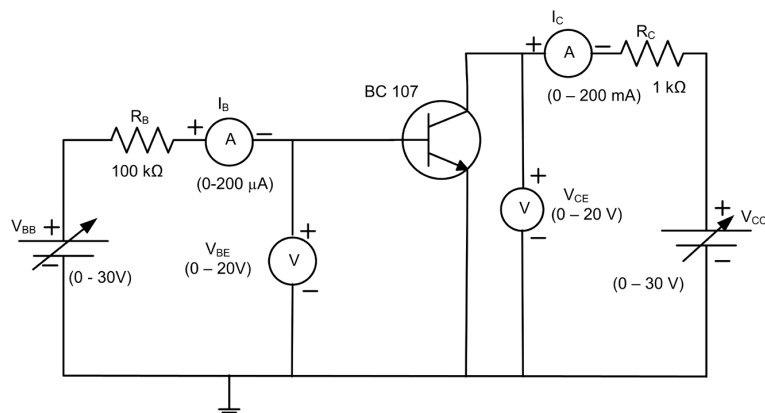

Fig. P20.1: Circuit diagram of BJT in CE mode
1. Connect the circuit as shown in Fig. P20.1.